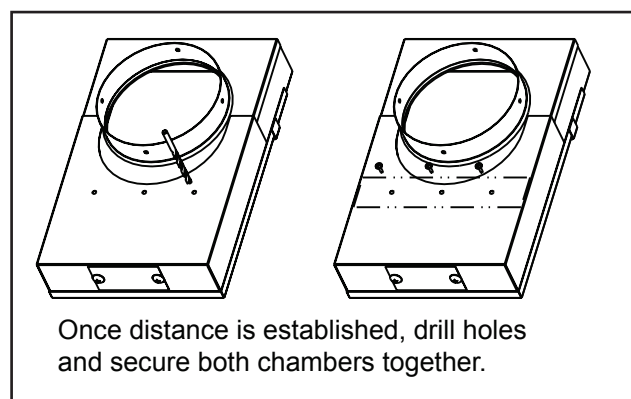

Figure 17.4
3. Adjust the offset adapter to desired distance. Drill holes through the lower chamber as shown in **Figure 17.4** using the small drill bit #26 provided.